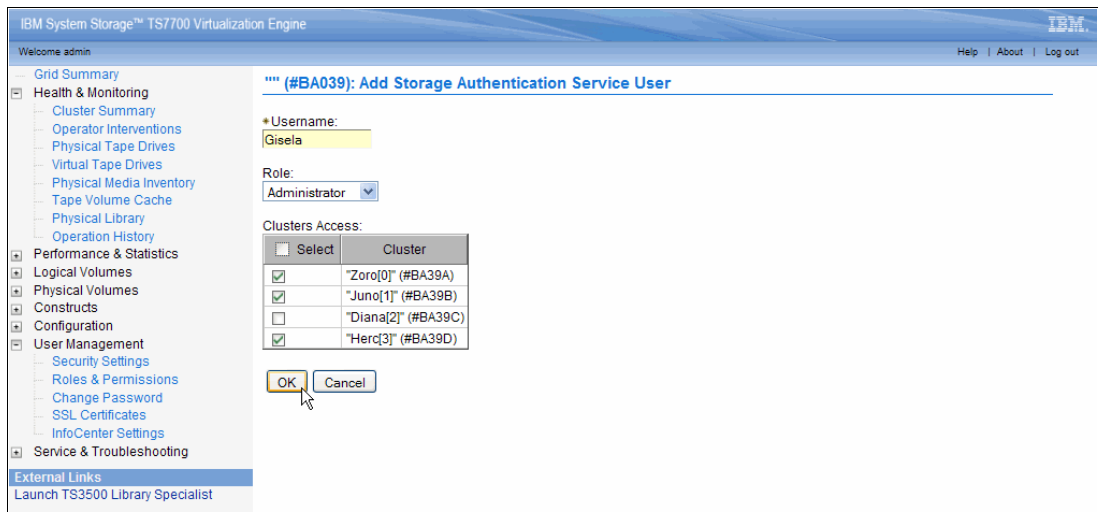

Figure 8-69 Defining Username, Role and Cluster Access Permissions
- b. Click **Go** to open the Add Storage Authentication Service User panel shown in Figure 8-69.